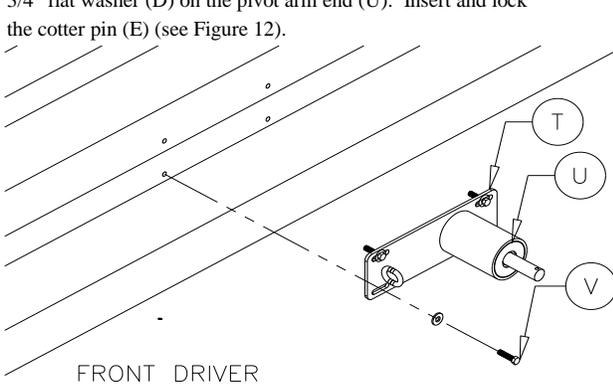

Figure 11
**Note:** The pivot arm end (U) must be aligned with the pivot point.
Using a 3/8" drill bit, drill through the center of the slots in the bracket (T) and through the box wall. Fasten the pivot arm bracket to the box with the 3/8"x1-1/2" hex bolt (V), 3/8" flat washers, and 3/8" nylon lock nuts provided (see Figure 11).